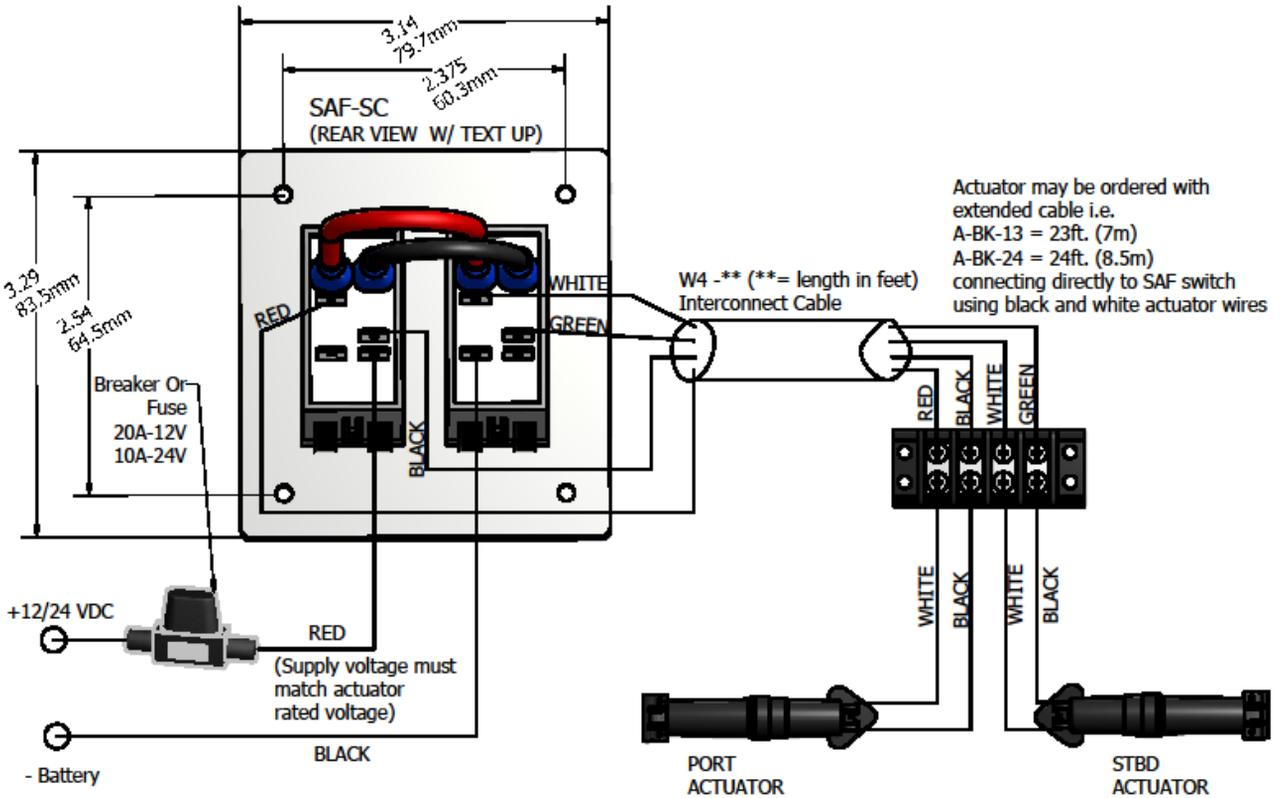

Fig. 4
1. KA Kits include actuators with 6' (1.8m) extended cable and 20' (6.1m) cable (W4-20) to attach from the actuators to the control switch (see Fig. 4). This cable is also available in longer lengths. Visit www.lectrotab.com for additional cable lengths listed under Products/Individual Parts and Accessories.
2. KA Kits include a hardware kit, which contains a terminal strip and terminals to connect the actuator cable to the 20' (6.1m), 4-conductor, 14 AWG (2.08mm sq.) cable (see Fig. 4). The cut end of the 20' (6.1m) cable may be routed starting where the control switch will be mounted. The 4 blue push-on terminals will connect to the rocker switch.
5. Crimp the fork terminals to the cut end of the black actuator cable and connect to the 4-lug terminal strip per Fig. 4.
6. Crimp the fork terminals to the cut end of the 4-conductor gray cable (W4-20) and attach to the 4-lug terminal strip per Fig. 4.
2. If the W4-** cable is used to connect the switch to actuators, route the cut cable end from the Rocker Switch to the transom terminal strip. The push-on terminal end of the 20' (6.1m), 4-conductor, 14 AWG (2.08mm sq.) cable connects to the Rocker Switch (KA Kits), or route the longer 23' (7m) actuator cable directly to the Rocker Switch (XKA Kits). Connect cable to switch as shown in Fig.4.
3. Connect a fused 12vdc or 24vdc power source as shown in Fig 4. **Power source voltage must match the actuator voltage.**